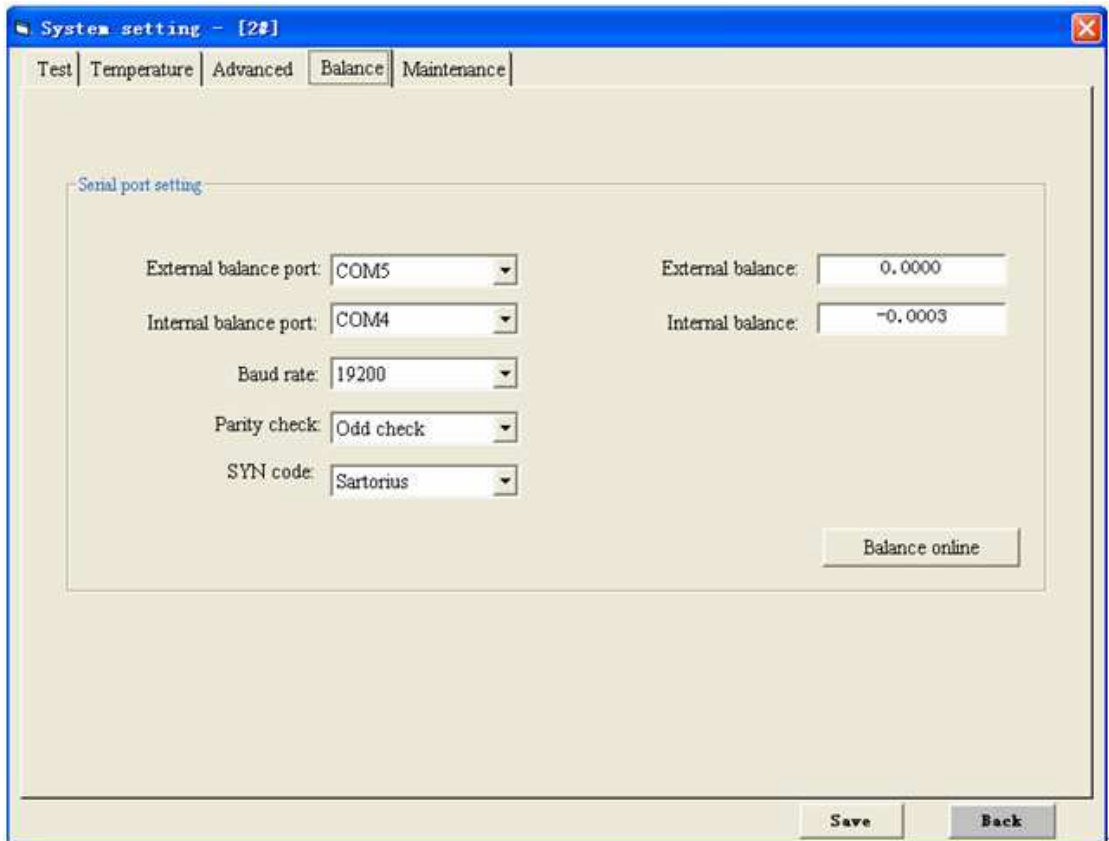

Fig.4-2-4
- 4、 Balance setting: Click “System setting” to enter into the window shown as Fig.4-2-4.